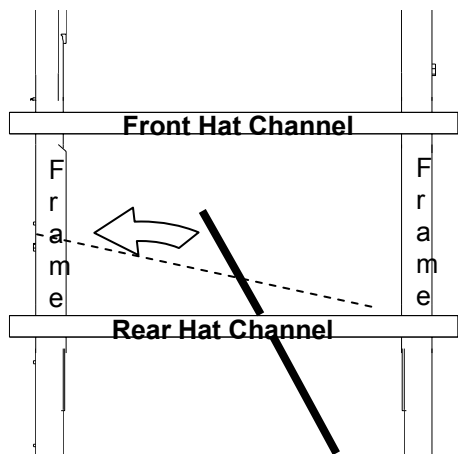

Figure 8
6. Insert rails as shown in the following steps (Figure 8 through 10). Insert rails with flat side up.